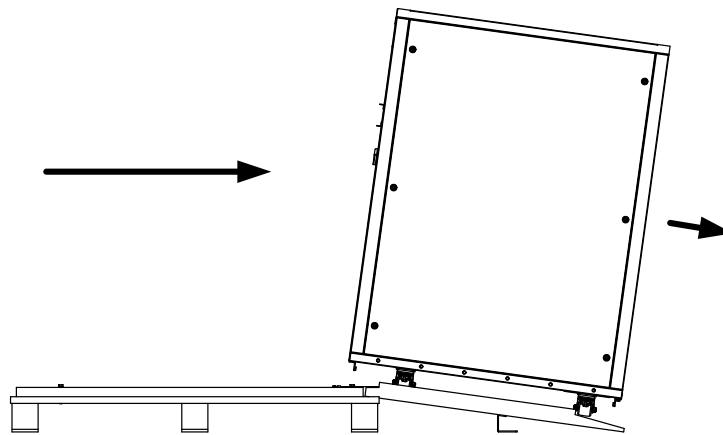

Figure 3-5 Roll the UPS down
(7) Roll the UPS down from the pallet as shown in Figure 3-5.